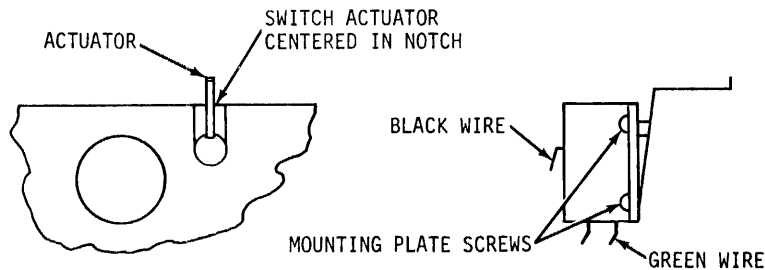

Figure 6-7. Hopper Empty Switch Adjustment
- c. Using a 1/16 Allen screwdriver, LOOSEN the two screws holding the switch mounting plate, figure 6-7.